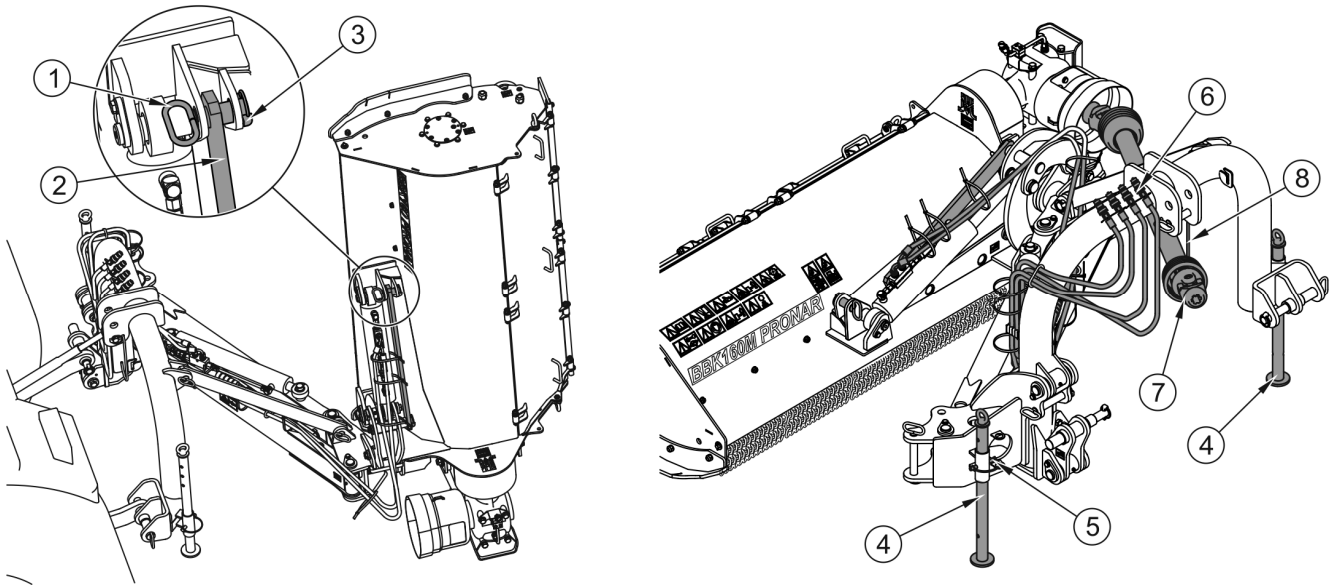

FIGURE 4.8 Disconnecting mower from tractor
In order to disconnect the mower from the tractor (FIGURE 4.8) proceed as follows:
- remove the locking pin (1), release the cylinder lock (2), and unfold the mower to a horizontal position.
- take out securing linchpins (5), lower parking stands (4) and lock it again with securing linchpins (5),
- disconnect hydraulic line connectors (6) from tractor and place in special brackets on mower frame,
- disconnect PTO shaft (7) from tractor PTO drive and place on support (8),
After disconnecting from tractor, mower should be supported on parking stands (4) (FIGURE 4.8) and on tracking shaft.